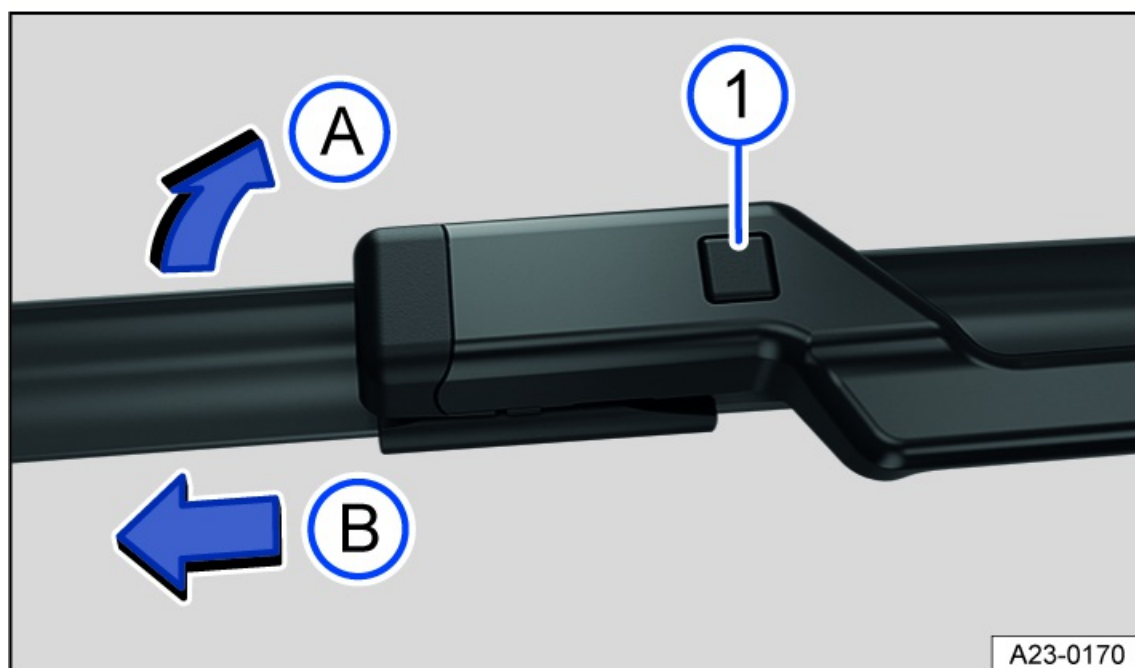

Fig. 141 Changing the windshield wiper blades.
① Wiper blade release button.
3. Press and hold the release button *fig. 141* ①.
4. Tilt the wiper blade toward the wiper arm *fig. 141* ① while removing it in the direction of the arrow ②. You may need to use more force to do this.
5. Slide a new wiper blade with the same length and design onto the wiper arm in the opposite direction to the arrow until it engages *fig. 141* ②. For this to work, the wiper blade has to be folded out *fig. 141* ①.